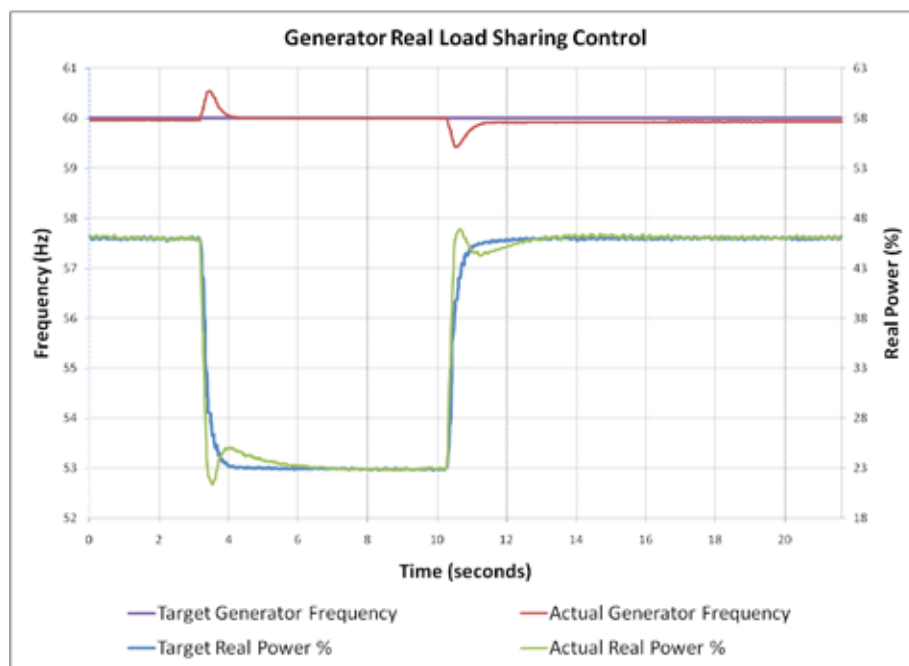

Figure 37.16 – Generator Real Load Sharing and Frequency Regulation
Simultaneously, the EMCP 4.4 regulates speed and voltage setpoints to rated values in order to maintain proper bus frequency and voltage. An example of regulating real power load sharing and generator frequency through a real load transient is shown in Figure 37.16. The degree to which the EMCP 4.4 regulates to the system load sharing target as well as the frequency/voltage target values is based on the tune settings of the closed loop Proportional-Integral (PI) control system.